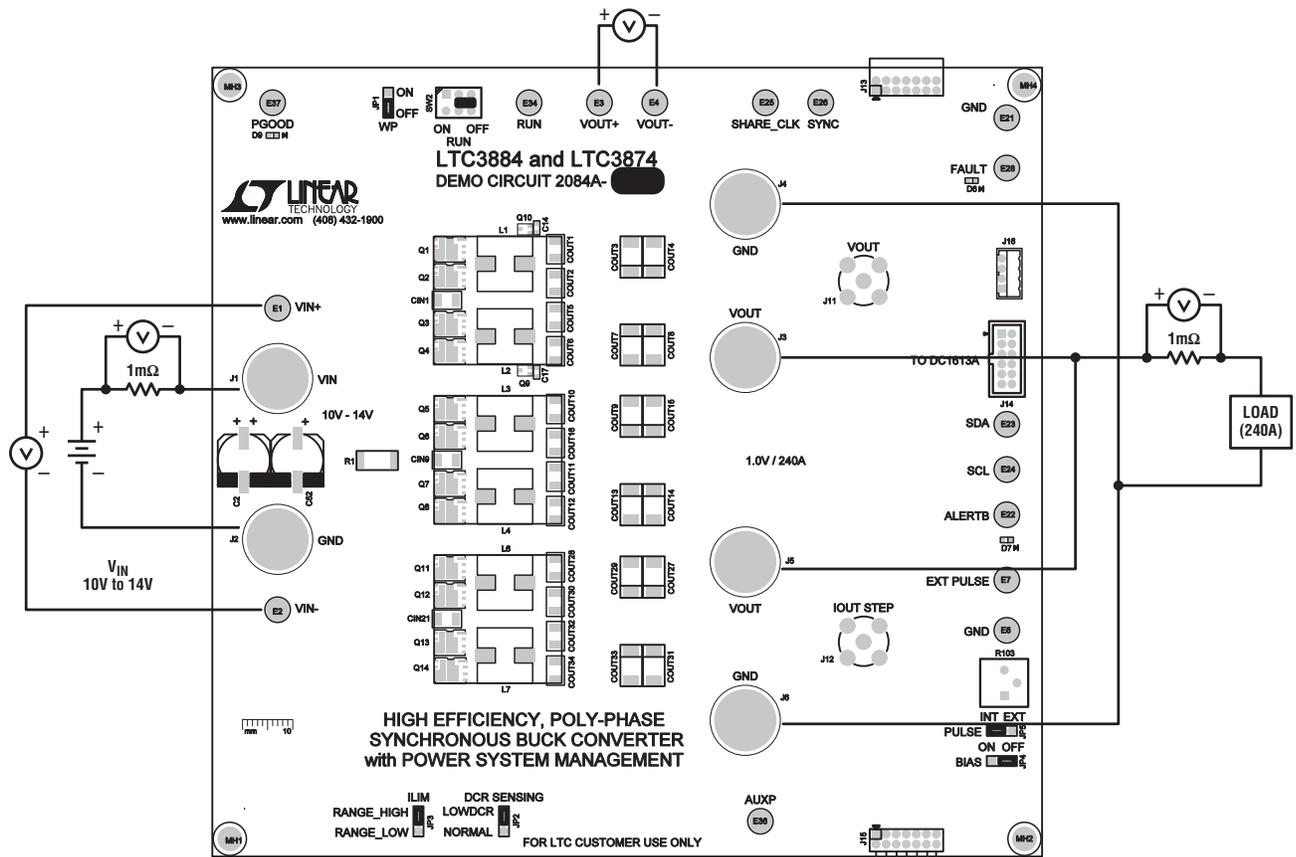

Figure 1. Proper Measurement Equipment Setup
Demonstration circuit 2084A is easy to set up to evaluate the performance of the LTC3884. Refer to Figure 1 for the proper measurement equipment setup and follow the procedure below.
2. Connect the output loads between  $V_{OUT}$  and GND (Initial load: no load). Refer to Figure 1.